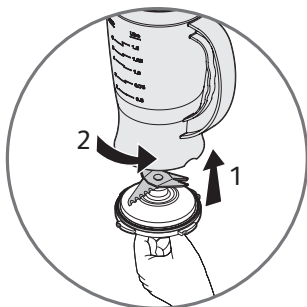

fig.2
- Place the assembly **(c1+c2)** on the base of the jug **(c3)**. Lock it by rotating the blade unit through a quarter turn in the anticlockwise direction. **(Figure 2)**.